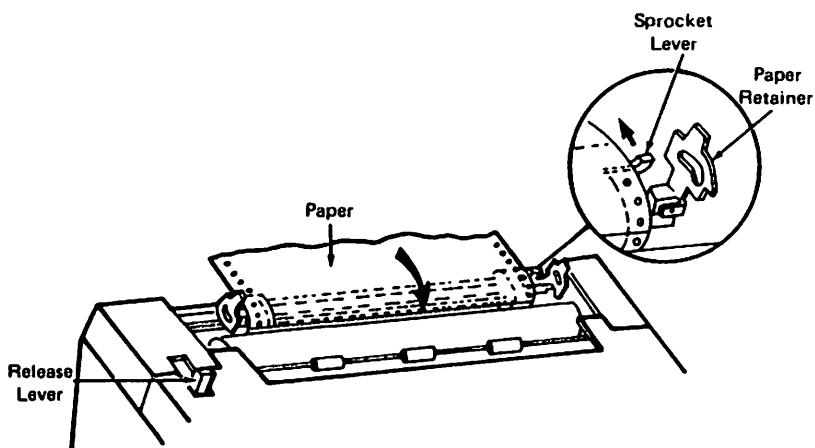

Figure 3 Paper installation (fan-folded paper)
6. Fit the paper sprocket holes on the right and left sprocket tractor pins. If necessary, push back the sprocket levers and move the sprocket tractors as needed to match the paper width. Then pull the sprocket levers forward to lock the sprocket tractors into position (Figure 3).